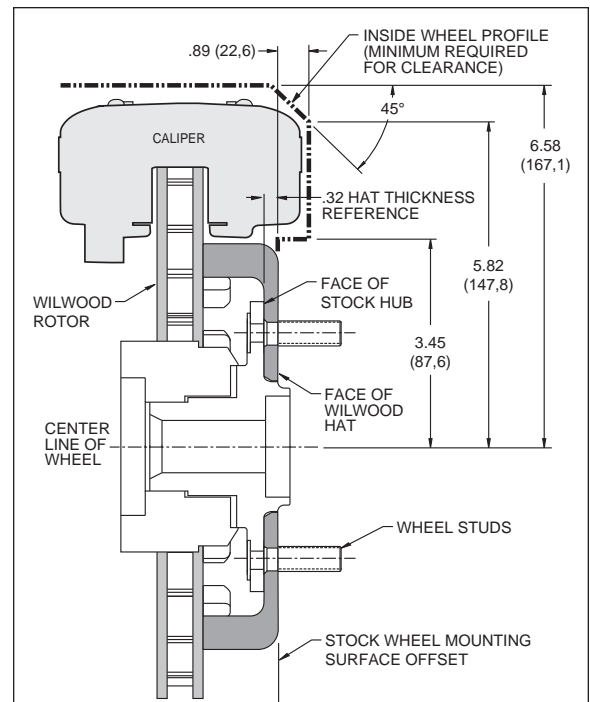

Figure 3. Wheel Clearance Diagram
- Review the wheel clearance diagram (figure 3) to verify that there is adequate clearance with the wheels you will be using with the installation.
- Verify your wheel clearance using Figure 3.